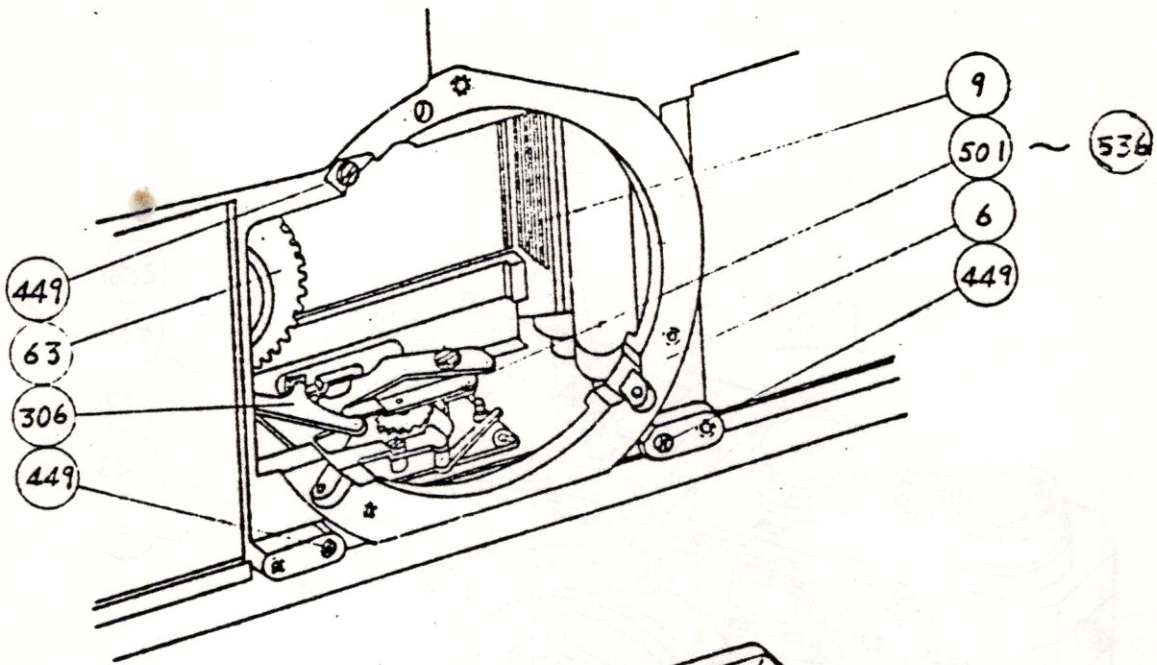

Fig. 2
(See Figs. 2 and 6)
4. Removing the light baffle (Fig. 2)